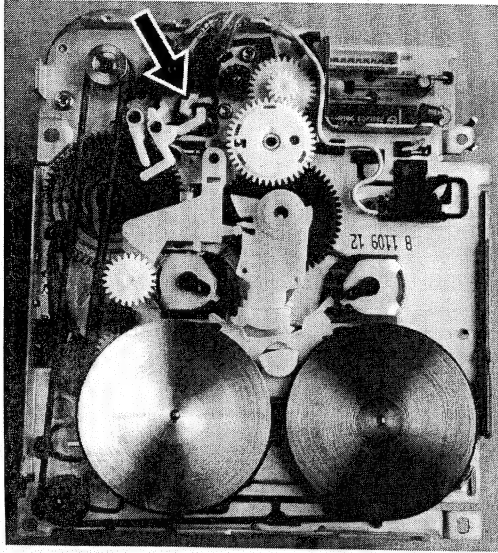

Figure 1
The transport disc (pos. 33) must be in the position, shown in fig. 1.
**NEVER** turn the transport disc, unless it is not in the 'Eject' position (yet)! If not in 'Eject' position, turn the NOR fly-wheel pos. 11 counter-clockwise until the transport disc reaches the 'Eject' position.
Before disassembling the tape deck, take care that the cassette holder pos. 51/52 is in the **eject** position. See figures 1 and 11.